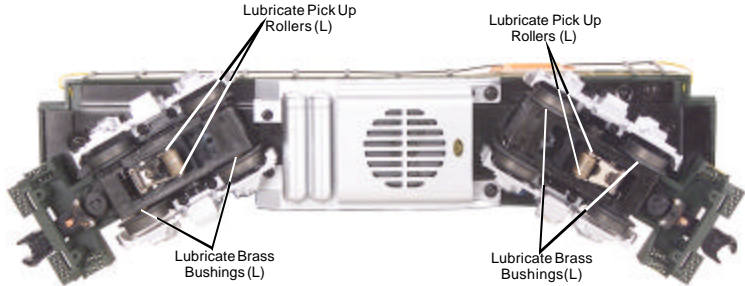
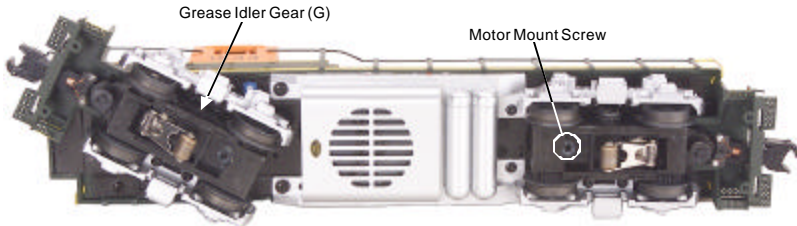

Figure 5. Lubrication Points on the Locomotive
Figure 7. Locations of Greasing Points on the Locomotive
Although the engine was lubricated at the factory, it is important that you lubricate the engine before operation. Lightly grease the outside idler and drive gears (marked “G” in Fig. 7 on pg. 13) with lithium-based grease to prevent them from squeaking and premature wear. Use light household oil and follow the lubrication points (marked “L” in Fig. 5 on pg. 12). Do not over-oil. Use only a drop or two on each pivot point.
You should regularly lubricate the engine to prevent it from squeaking. Use light household oil and follow the lubrication points marked “L” in Fig. 5. Do not over-oil. Use only a drop or two on each pivot point.
2. Once the body is removed, remove the trucks by unscrewing the black Phillips motor mount screw located on the underside of the drive trucks (see Fig. 7 on pg. 13).
Lubricate the outside truck block idler and drive gears with grease. Use the diagram shown in Figure 7 above as a guide and add grease to the points marked with a “G.”